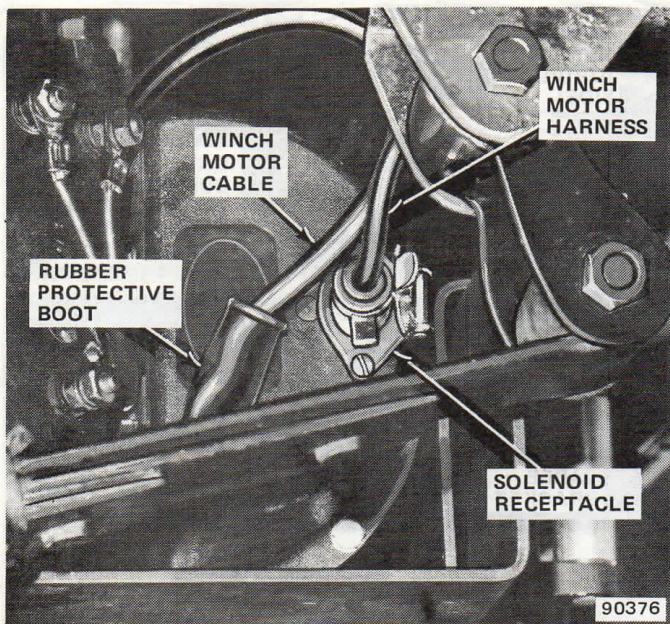

Fig. 5-21 Connecting Winch Motor Harness to Solenoid Receptacle
(26) Route winch motor/control switch harness around engine-side of bumper mounting bracket, and plug male connector of winch motor harness into receptacle on winch solenoid (fig. 5-21).
(27) Install rubber protective boot on one end of winch motor cable and connect that end of cable to winch motor solenoid (fig. 5-21).
(28) Lower vehicle.